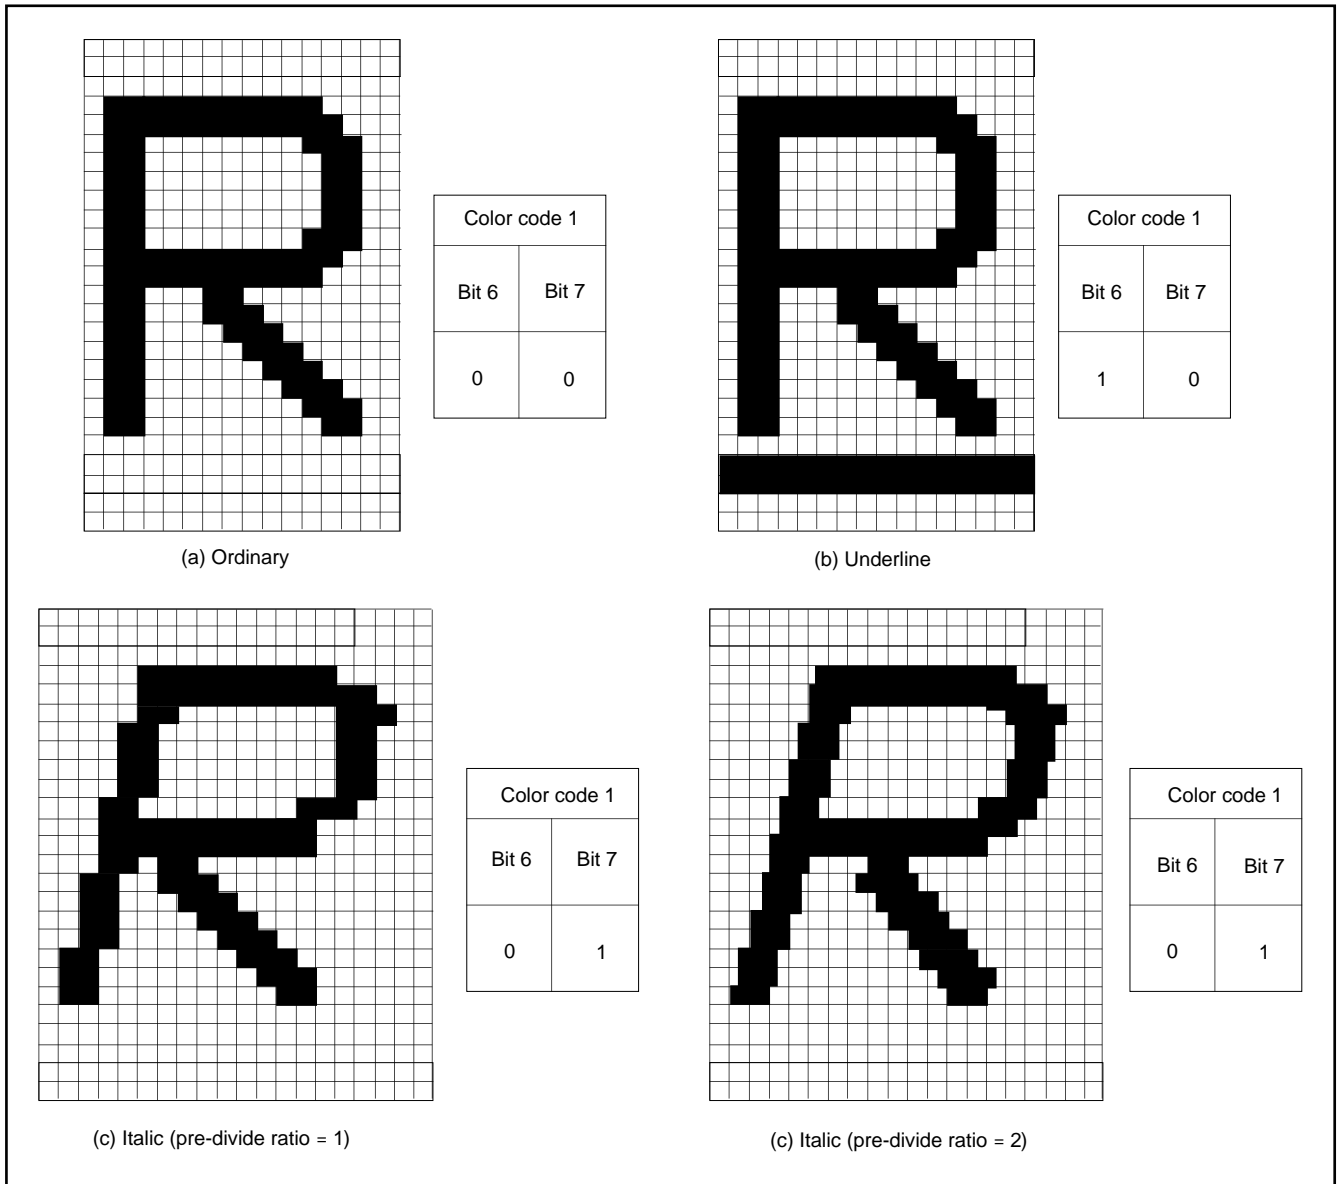

Fig. 68. Example of attribute display (in CC mode)
- 2: When the pre-divide ratio = 1, the italic character with slant of 1 dot X 5 steps is displayed (refer to Figure 68 (c)). When the pre-divide ratio = 2, the italic character with slant of 1/2 dot X 10 steps is displayed (refer to Figure 68 (d)).